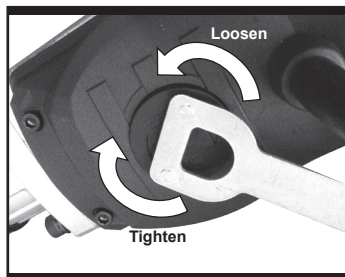

Fig. 5
6. GEARBOX MAINTENANCE(See Fig. 5)
Open the grease box using the pin spanner provided as shown in Fig 5.